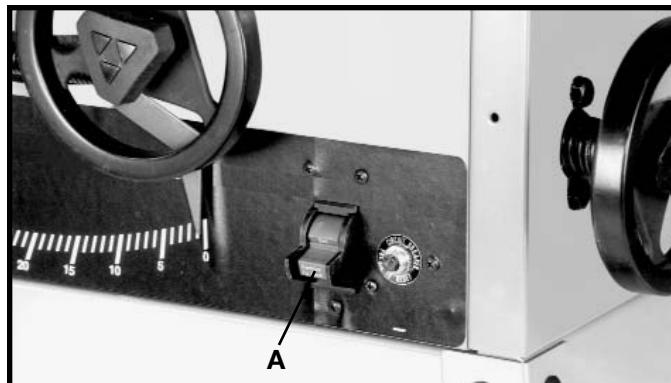

Fig. 33
The switch (A) is located on the front panel of the saw cabinet, as shown in Fig. 33. To turn the saw "ON", move the switch up to the "ON" position. To turn the saw "OFF", move the switch down to the "OFF" position.